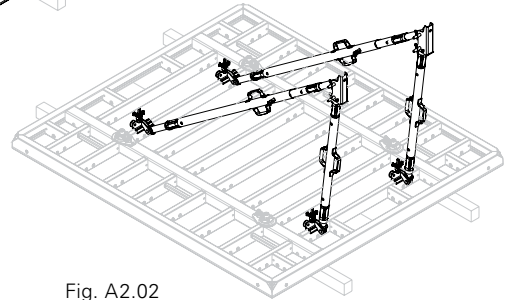

Fig. A2.02
- On the first panel: 2 push-pull-props. (Fig. A2.02)